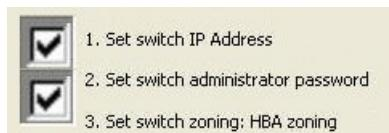

Figure 16 Second step of New Switch Setup completed
9. A message box confirms successful password change completion. Click **OK** to close the message box. The New Switch Setup dialog box shows a check mark next to the second step, “Set switch administrator password,” (Figure 16) indicating that you have completed that task.